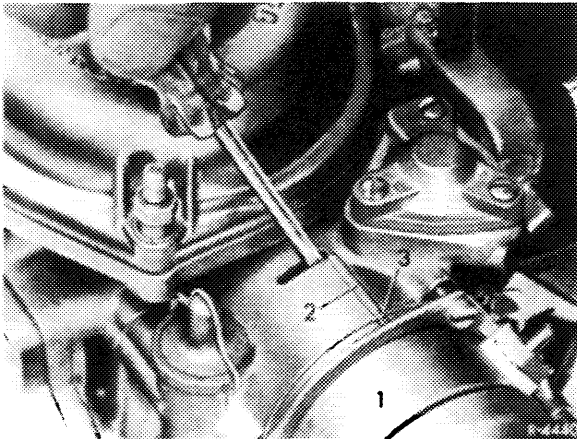

Fig. 07-3/11
2 Check cold-starting speed. Run engine at idle speed. Raise gas linkage slightly and push drive lever (1) in direction of engine by means of a small screwdriver through slot of starter housing (Fig. 07-3/11) (Fig. 07-3/12). Release gas linkage and drive lever. The starter lever (3) will now rest on upper detent of stepped disc (2).